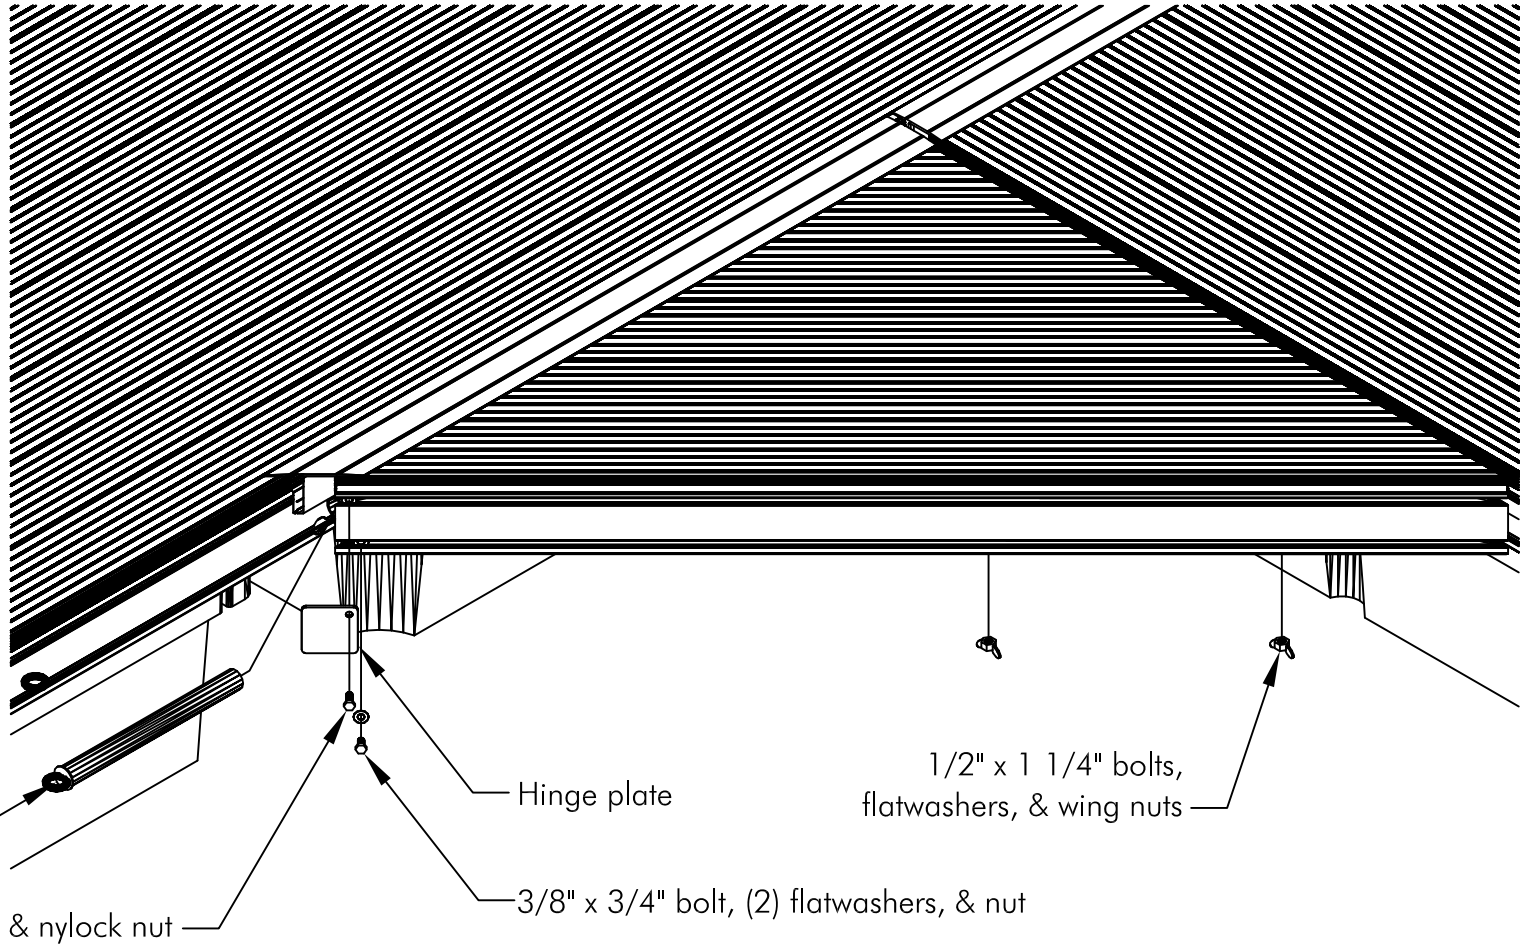

Fig. 6A
Attach the hinge plate to the wedge side using a 3/8" x 1" bolt, flat washer and nylock nut. The nut and flat washer are inserted into the upper nut track and slid to the end. Bolt should be tightened so that plate can still pivot. Insert a 3/8" nut & flatwasher into the lower nut track and slide to end. Thread a 3/8" x 3/4" bolt and flatwasher into the nut as shown in Fig. 6A. This will act as a stop for the plate. Torque to 40 ft./lbs. Insert (2) 1/2" x 1 1/4" bolts, flatwashers & 1/2" wing nuts into the nut track on the bottom side of the wedge and finger tighten to hold them in place. These will be used later to secure the wedge to the wedge angle mounts. Place the dock wedge so that it rests on the wedge mount angles and under the dock trim. Flip open the hinge plate and insert the hinge pin through the 3" & 6" hinges. See Fig. 6A & 6B. Close the hinge plate to prevent the hinge pin from coming out. Torque the 3/8" bolts to 40 ft./lbs. Now loosen the 1/2" wing nuts and slide them into the slots in the wedge mount angles and tighten them as tight as possible. See Fig. 6A.